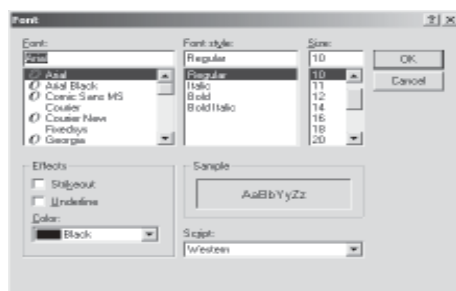

Fig. 4-40 Set Font Properties
(3) **Font:** Set the font of the explanation word. Double click the left zone of Font, the font setting dialogue frame as in Fig. 4-40 will pop out. And the shape, size, color and so on can be set in the dialogue block.